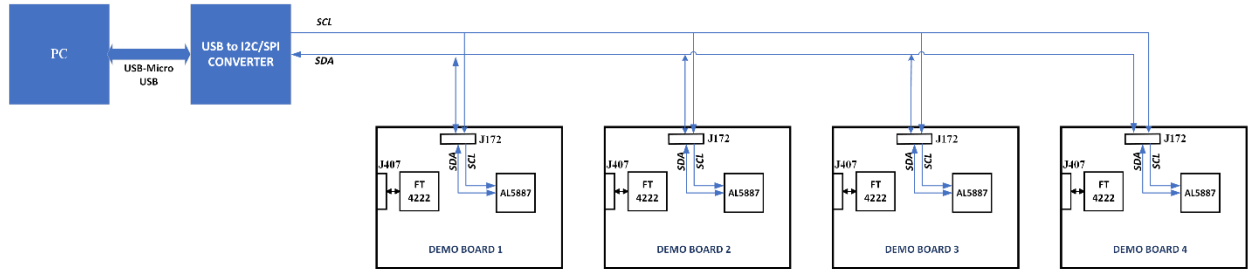

Figure10: PC to Demo board.
Step 3: Connect demo board to PC or Micro controller as shown in figure10 &11 at J172 connector and the connections are as follows,